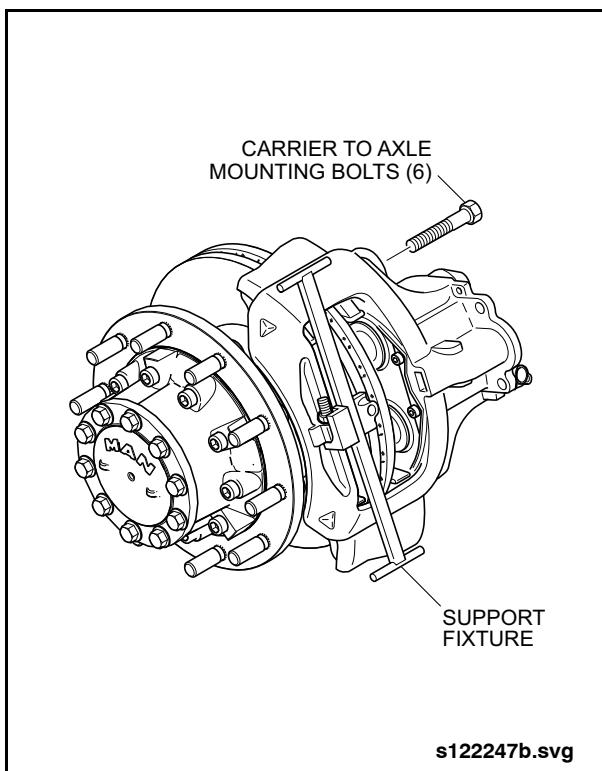

Fig. 2-125: Brake Caliper Removal
5. Install the caliper support fixture (Item 1 from special tools list). See "Fig. 2-125: Brake Caliper Removal" on page 112.